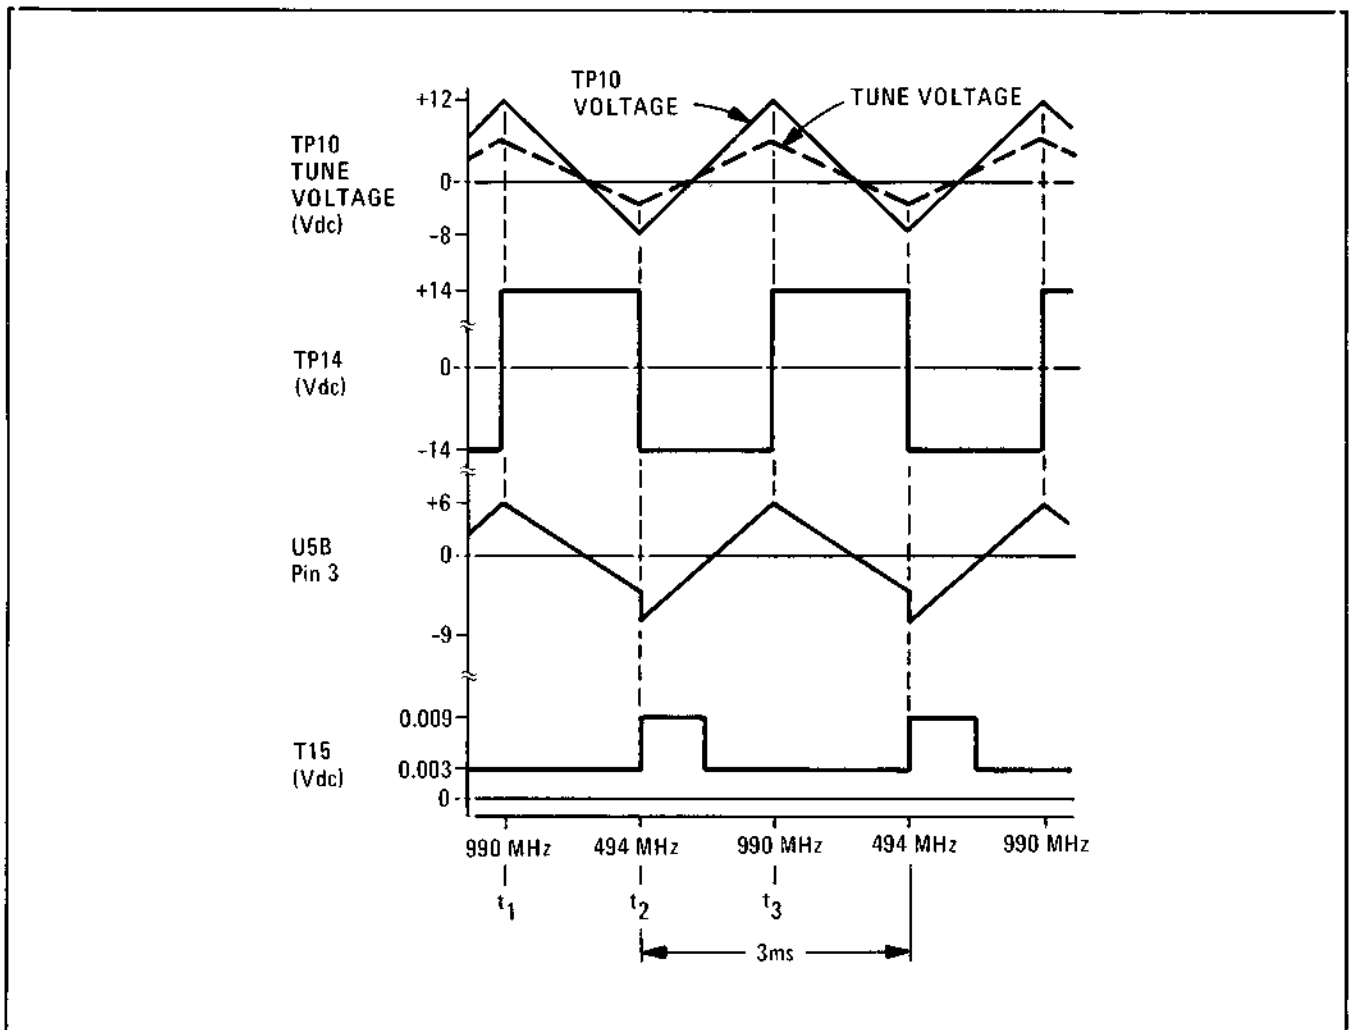

Figure 1. Untocked High Frequency Loop Waveforms
Refer to the waveforms in Figure 1. The loop is unlocked and the positive input to U5B is more positive than -3.75 Vdc. The output of U5B is switched to +12 Vdc. The VCO is swept across its frequency range (990 to 494 MHz). At time T1 the comparator U5B has just changed state. CR16 is biased on and CR17 is biased off. At time T2 the positive input to U5B becomes more negative than the negative input and the output switches to -14V, CR16 is biased off, CR17 is on and the positive input to U5B is pulled to -8.7V. During this time the instrument would normally have locked. At time T3 the positive input to U5B becomes more positive than the negative input and the output changes to +14V, CR16 is biased on, CR17 is biased off and the positive input of U5B is pulled to +6 volts. This cycle is repeated until a locked voltage is received from the sampler.
3. Verify that the waveforms of Figure 1 are correct.